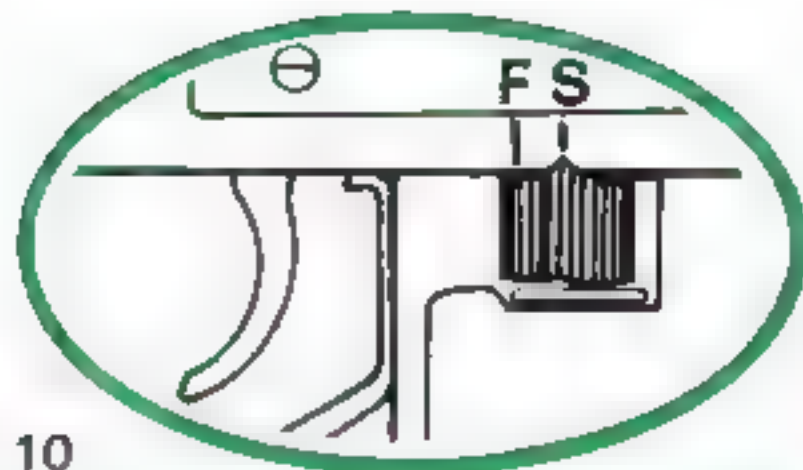

fig. 10
- 2 Set the fire selector on "S" (Safe) (fig 10)